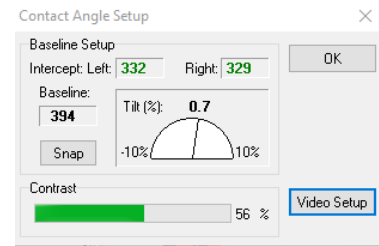

Figure 4 Contact Angle Setup window.
3. Click the “Calibration” in the main menu, Figure 4, and choose new calibration